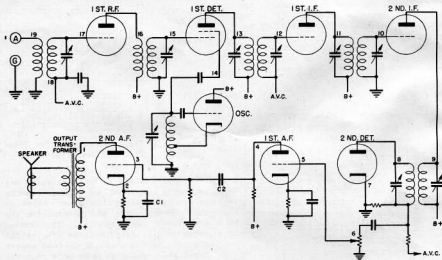
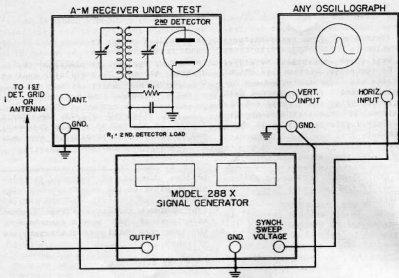
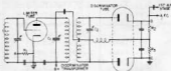

Figure 4.1 - Basic Circuit,
Figure 4.2 - Interconnections for Alignment
Figure 4.3 - Discriminator Circuit
In general, all of the models may be used for the same purpose. Should the Model 277X be purchased, a voltmeter may be used, in many cases, to replace the decibel meter. As the applications indicated here are general in nature, the specifications of the manufacturer should be consulted in making all tests. A basic circuit diagram of the seven tube amplitude modulated superheterodyne receiver which is referred to throughout the following discussions is shown in Figure 4.1. Frequency modulated receiver circuits have, in addition to the stages shown, limiter and discriminator (2nd detector) stages. (Frequency modulation is discussed in detail in Section II, Theory, Paragraph 2.6).
The following chart summarizes the alignment effected, the signals required, the indicating medium required, the points of connection for both, and the alignment adjustment necessary for the alignment of the stages of both amplitude and frequency modulated receivers. In conjunction with this chart, reference is made to the text for greater detail on the alignment to be made and to Figure 4.2 which shows the interconnections of the oscillograph, signal generator and the receiver. All points given are with reference to the basic circuit of the superheterodyne receiver, illustrated in Figure 4.1, and the discriminator circuit illustrated in Figure 4.3. The oscillograms which will be obtained when making alignment by means of the oscilloscope are shown in Figure 4.4 - 4.10.
1. In frequency modulated receivers there is at least one, and sometimes two, limiter stages ahead of the discriminator (2nd detector) stage. See Figure 4.3. The general procedure for the alignment of frequency modulated receivers is similar to that for the alignment of amplitude modulated receivers except that, in the alignment of various stages, it is necessary to have either a sensitive microammeter, preferably zero-centered, or a vacuum tube voltmeter, such as the Hickok Models 125, 203 or 110D, or cathode ray equipment such as the Hickok Model 305.
2. Figure 4.3 illustrates a typical limiter and discriminator circuit. If no scope is available it will be necessary in the alignment of all i-f and r-f stages and the local oscillator preceding the limiter stage, to either disconnect the limiter load resistance, R1, from ground and insert a microammeter, or to connect a vacuum tube voltmeter across R1, and use either meter as an indicator of alignment of the preceding stages. The alignment procedure will be identical to that for amplitude modulated receivers.
-- All connections are made in reference to Figure 4.1. Connect the decibel meter either at the primary of the output transformer (point 1), or across the voice coil of the speaker, and feed a signal in at the grid of the audio frequency output stage (point 3). Note the reading of the indicating meter, and, maintaining the signal level constant, transfer the signal to the grid of the 1st A.F. (point 5). The gain of the stage can be calculated from the increase in the meter reading. If the tube is a triode, the gain may not exceed 10. However, if it is a pentode, the gain may be as high as 50 or 100.
a. General - The Model 288X, when properly used, is a very valuable instrument for locating trouble in electronic devices. In the case of radio receivers it is advisable in locating faults, to start at the speaker or output stage and work back towards the antenna. All following information on trouble-shooting is with reference to the basic circuit of the superheterodyne receiver, illustrated in Figure 4.1.